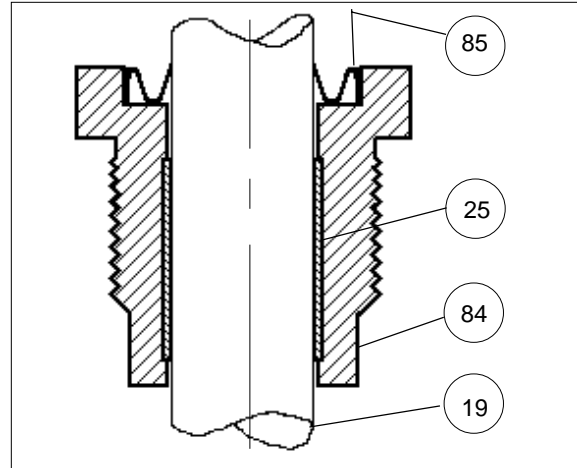

Figure 3 – U-Cup Seal
- j. Apply a "thin" film of adhesive/sealant (same as IV.5.j.) to the outer edge of a new U-cup seal (85) only. (See Figure 3.) Insert the U-cup seal (85) into the recess of the brass guide (84). Insert new bushing (25) into guide (84).